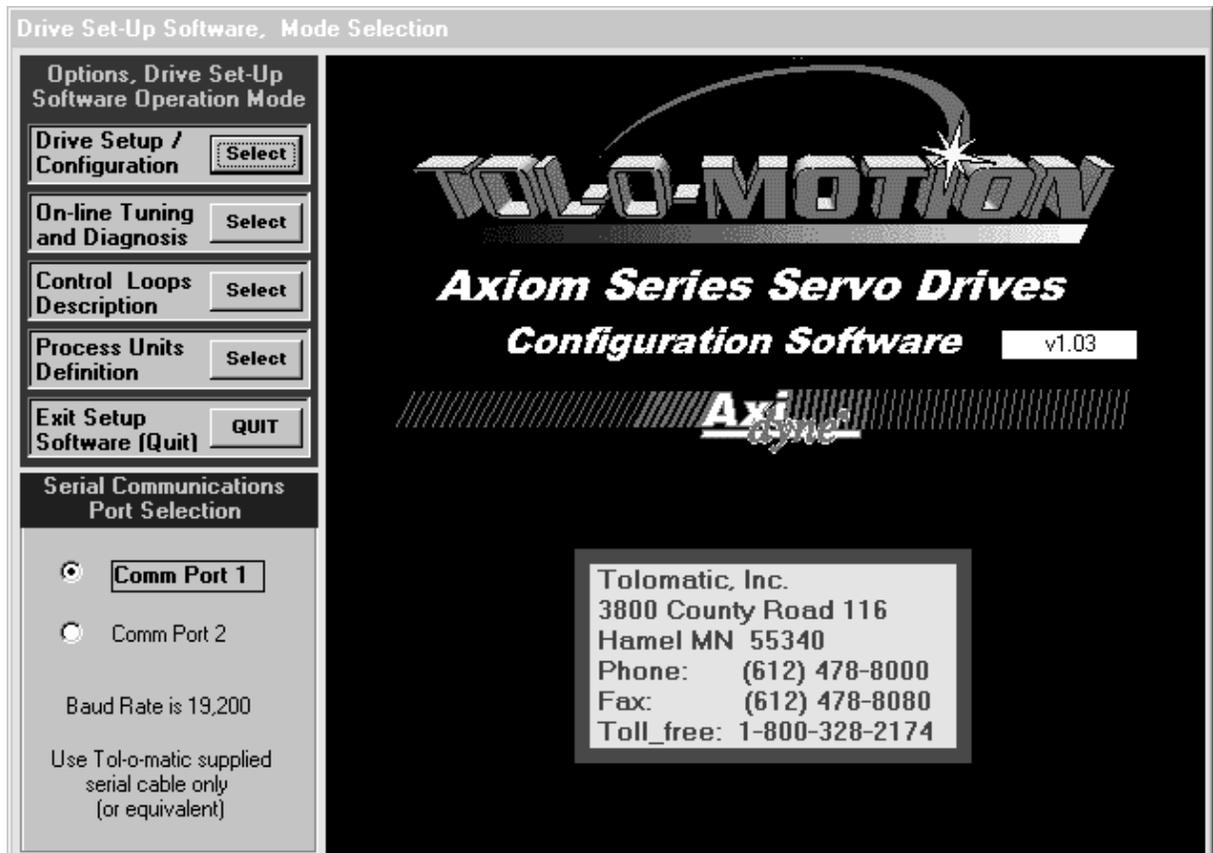

Figure 8.1 - Axiom Setup Software Opening Screen
3. Open the Axiom setup software. The setup software main screen will appear (see Figure 8.1).